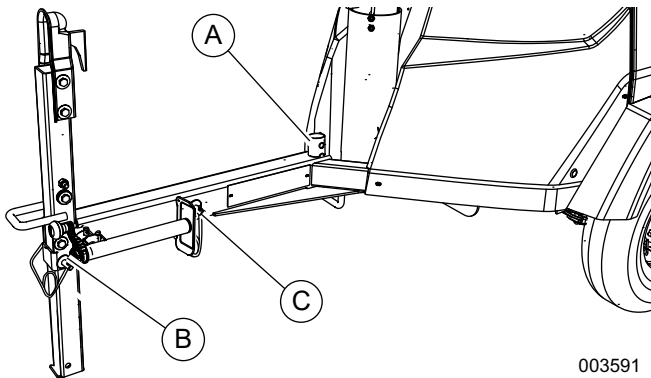

Figure 2-7. Jack and Pin Locations
NOTE: See Figure 2-7. Unit ships from factory with jack in the storage location (A).
5. See Figure 2-7. Remove pins (B) and (C).